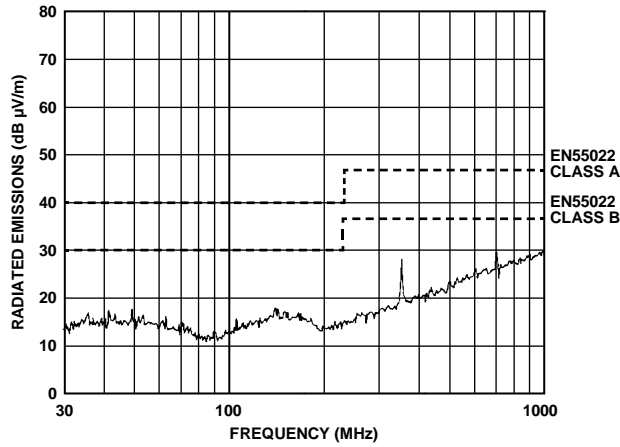
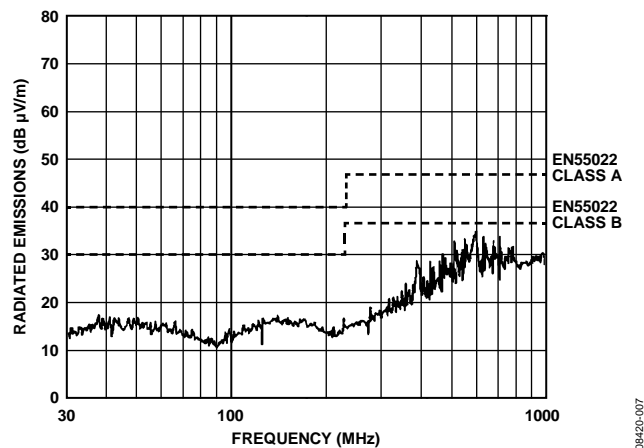

Figure 4. Horizontal Scan from 30 MHz to 1000 MHz (Corresponds to Worst Case for Table 4)
Figure 7. Horizontal Scan from 30 MHz to 1000 MHz (Corresponds to Worst Case for Table 7)
The EVAL-ADM2582EEBZ and EVAL-ADM2587EEBZ evaluation boards are configured and tested with 3.3 V VCC or 5.0 V VCC power supplied to the ADM2582E and ADM2587E devices, with the power supplied from the ADP667ARZ regulator output to VCC (Pin 8). The ADP667ARZ regulator input is supplied from a standard 9 V battery. All EN55022 radiated emissions testing is performed with 9 V batteries. Testing is performed at a 500 kbps clock (ADM2587E) or 16 Mbps clock (ADM2582E), with the clock supplied by the on-board oscillator. The ADM2582E/ADM2587E transceiver is connected in full-duplex mode and the bus pins are loaded with a 60 Ω termination resistor. Measurements are carried out in a semi anechoic chamber at 10 m from 30 MHz to 2 GHz . Figure 4 to Figure 7 show the results of the worst case horizontal scans, and Table 4 to Table 7 show the tabulated quasi-peak (QP) results.